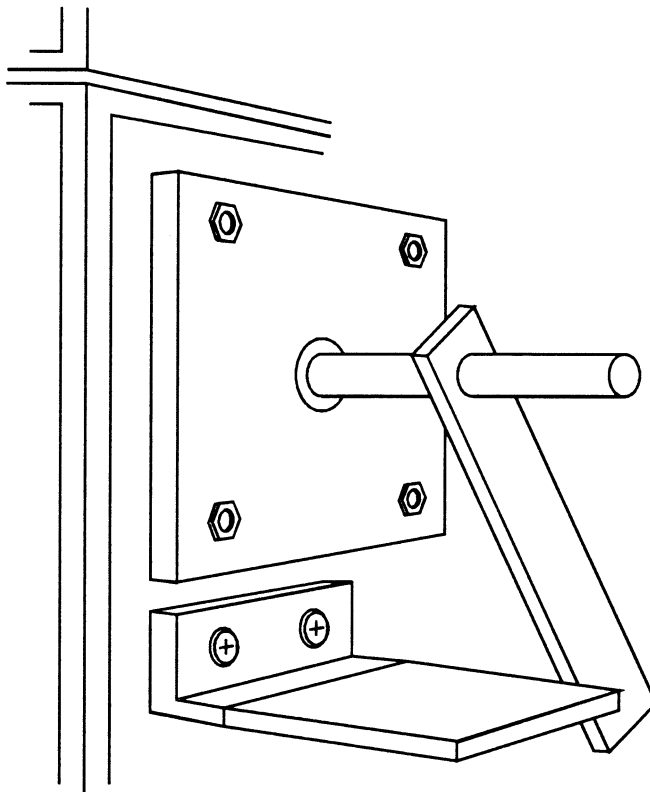

Figure 8 - Propane Burner Stop
(4) Immediately push the sliding platform into the chamber and close the bottom door.
(5) Bring the pilot burner flame into contact with the center of the specimen at the "zero" point and simultaneously start the timer. The pilot burner must be at a 27° angle with the sample and be approximately ½ inch (12 mm) above the sample. See figure 7. A stop, as shown in figure 8, allows the operator to position the burner correctly each time.